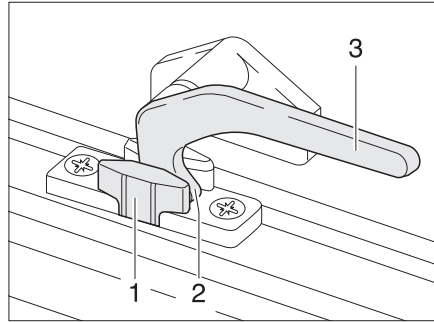
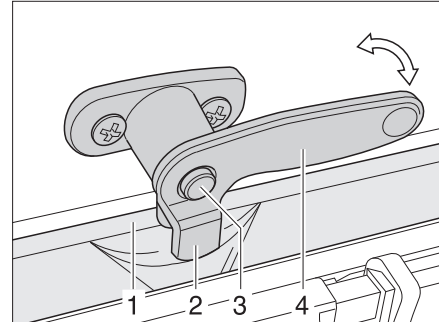

Fig. 68 Catch lever in the "Continuous ventilation" position
Fig. 69 Catch lever with safety knob in "Continuous ventilation" position
- "Continuous ventilation" (Fig. 68)
- If it exists, press the safety knob (Fig. 69,3) down and hold it.
- Turn the catch lever (Fig. 68,3 or Fig. 69,4) a quarter turn towards the centre of the window.
- Return the catch lever to its initial position. In the process the locking catch (Fig. 68,2 or Fig. 69,2) is retracted into the recess of the window catch (Fig. 68,1 or Fig. 69,1).